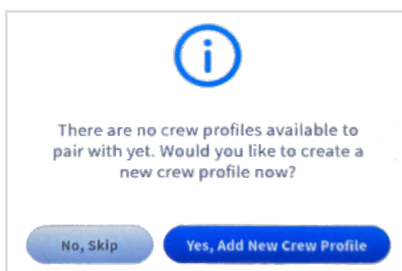
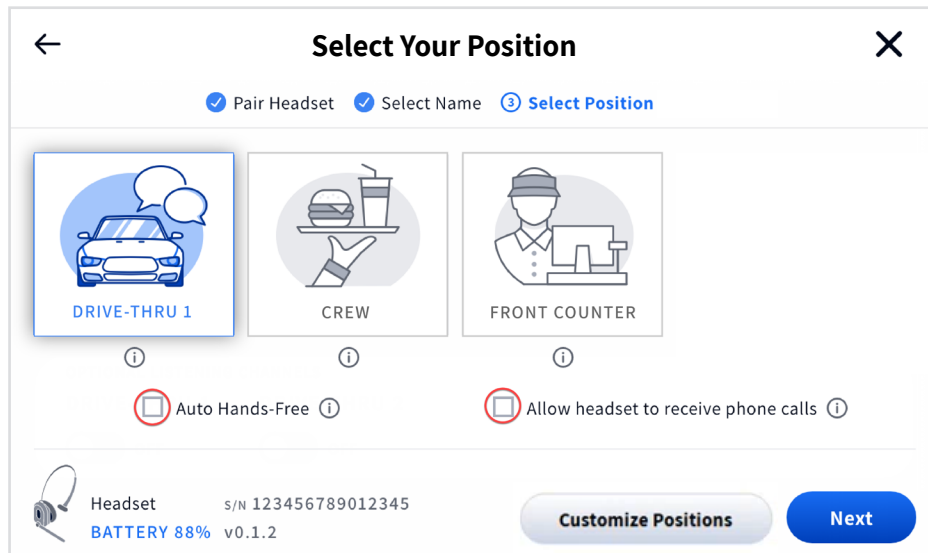

Fig. 1.22
Fig. 1.24
- \*\* The person you are calling must be enrolled in the Crew Profile directory and wearing a headset. See Fig. 1.22 for example. You cannot call an individual if they are using the headset but not enrolled (i.e., the user selected “Continue as guest” when pairing). First names, last names, or full names can be used. For example, if there are two crew members with the same first name, then the headset will prompt you to use the last name of the person you wish to talk to. The receiver must tap the Action key () on their headset to answer. To end the call, either person can tap the Action key () and exit this state.
Once your headset is successfully paired, one of two dialog boxes appears. If there are no crew profiles set up in the system, then Fig. 1.22 will appear. Tap the **No, Skip** button to continue as a guest (this will open the “Select Your Position & Options dialog,” see Fig. 1.24). Or, tap the **Yes, Add New Crew Profile** button (this will open the Create Crew Profile dialog, see “Chapter 2 - Crew” on page 17 and Fig. 2.2).
When the **Select Your Position** dialog appears (Fig. 1.24), you are prompted to select a position. Tap on one of the available tiles to select it (DRIVE-THRU 1 is selected in Fig. 1.24). If you are selecting the DRIVE-THRU position, you also have the option of **Auto Hands-Free** mode (the first checkbox located below the position tiles). This allows you to connect with a new customer without having to connect manually by tapping the headset keypad.
The other checkbox option is **Allow headset to receive phone calls** (see Fig. 1.24). Stores that have a landline telephone may wish to have it connected to the NEXEO system so that a NEXEO headset can be used to receive incoming phone calls. When this box is checked, the Ⓢ (Action) key on a designated headset keypad can be used to answer incoming calls. Only one headset can be designated to receive phone calls, and your system must have a TI7000 installed. The TI7000 is a Telephone Interface module used to connect the store telephone to the base station. The TI7000 must also be enabled on the base station. See **Telephone Interface** under “Settings” on page 27.
**NOTE:** The system remembers your **Select Position**, **Auto Hands-Free**, and **Allow headset to receive phone calls** selection (options selected in Fig. 1.24) when a headset is powered off or the base station is rebooted, unless the user changes the options by re-pairing or they are overridden by another user during the pairing process.